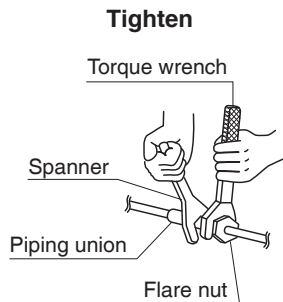

Fig. 9
- Use a torque wrench when tightening the flare nuts to prevent damage to the flare nuts and gas leakage. (Refer to Fig. 9)